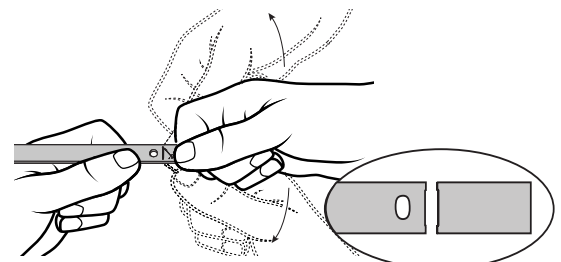

Fig. 22
2. Use four (4) 8-32 X 5/16" machine screws to secure the dress plate to the backplate where indicated. (Fig. 22)